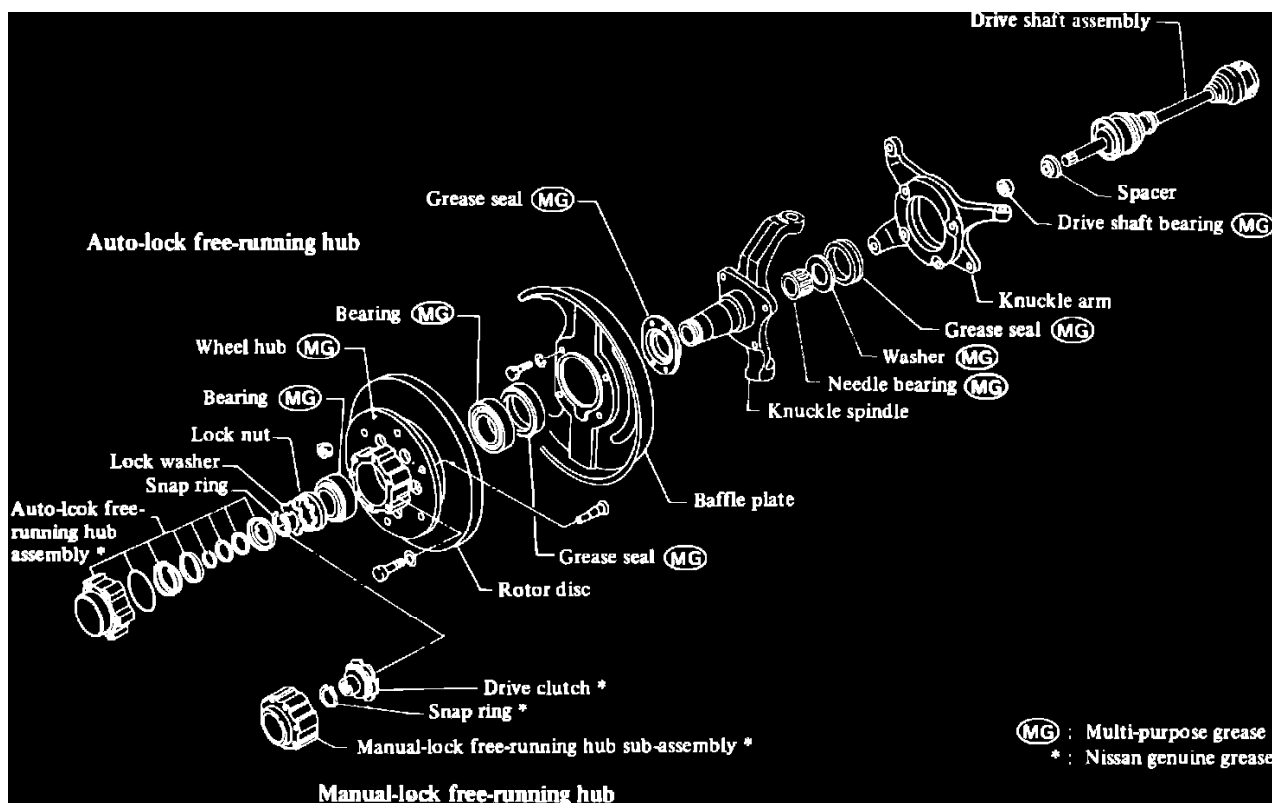

Fig. 2 Front axle exploded view. 1985-86 4WD Pickup
1. Remove snap ring, lock washer and front wheel locknut, Fig. 2.